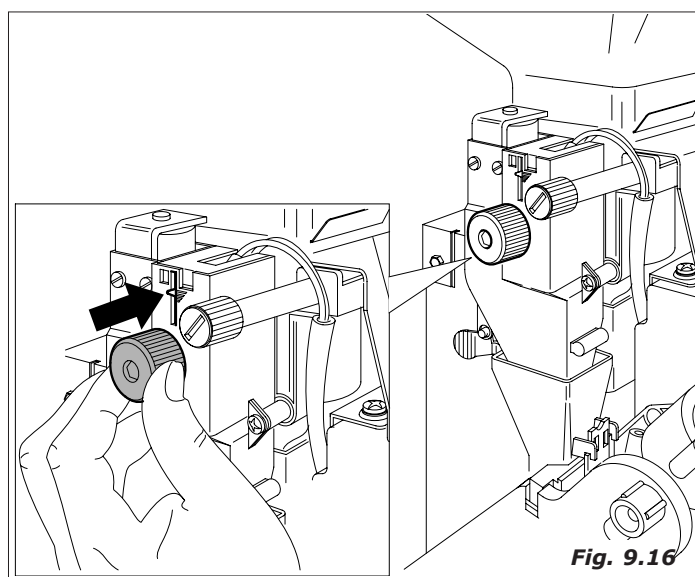

Fig. 9.16
- *Ground coffee gram weighting:* vary the quantity using the knob positioned on the measuring device (Fig.9.16). Each notch of the regulation knob corresponds to a value of 0.05 grams.
The variation in the product can be controlled by means of the reference notches on the body of the measuring unit (see figure 9.16)